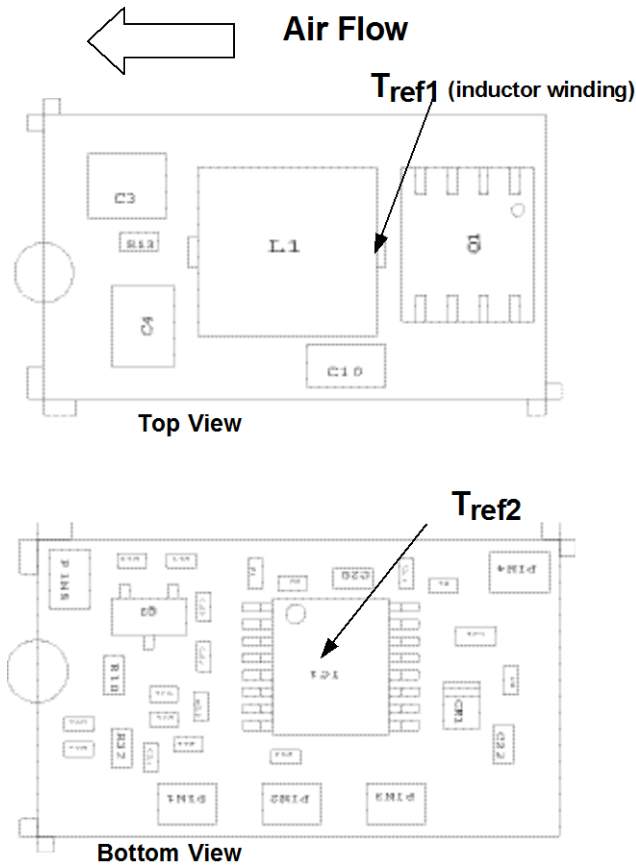
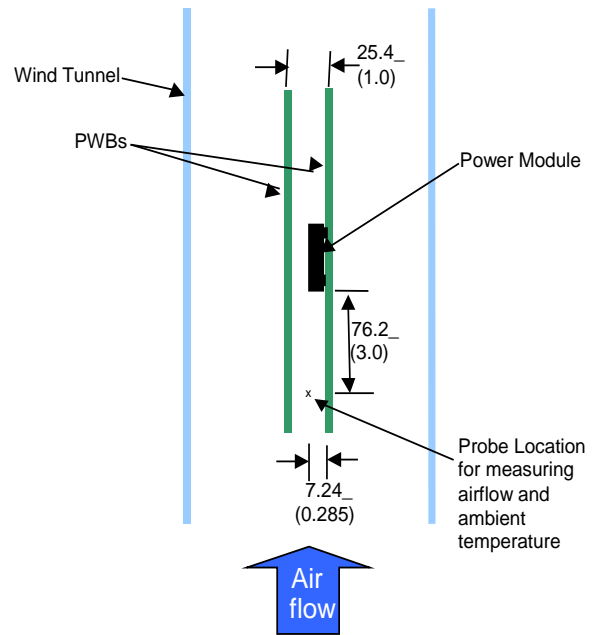

Figure 32. Tref Temperature measurement location.
Figure 33. Thermal Test Set-up.
Considerations include ambient temperature, airflow, module power dissipation, and the need for increased reliability. A reduction in the operating temperature of the module will result in an increase in reliability. The thermal data presented here is based on physical measurements taken in a wind tunnel. The test set-up is shown in Figure 33. Note that the airflow is parallel to the long axis of the module as shown in figure 32. The derating data applies to airflow in either direction of the module’s long axis.
The thermal reference point, T_{ref1} used in the specifications of thermal derating curves is shown in Figure 32. For reliable operation this temperature should not exceed 125°C.